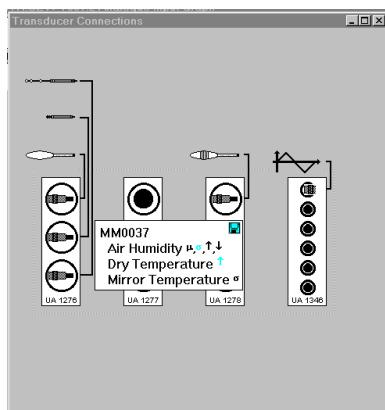

Fig.6.5 The Transducer Connections dialogue showing which parameters are being measured and those also being stored.
2. Click on the plug of the particular transducer and the values being measured are displayed. Those shown in light blue are stored to disk, see Fig.6.5.
The example illustrated in Fig.6.5, shows the following information: